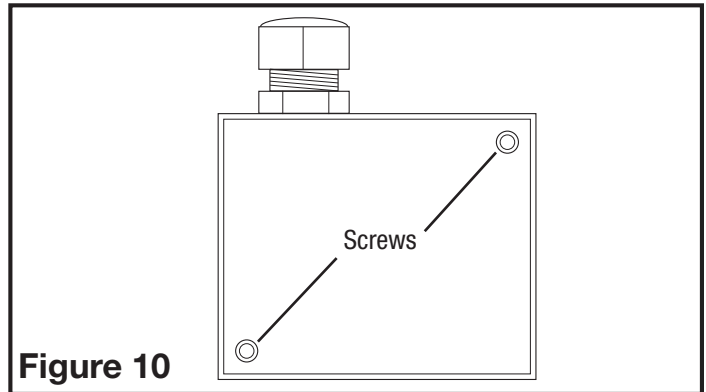

Figure 10
1. Remove the screws securing the terminal box cover plate located on the side of the motor (Figure 10).